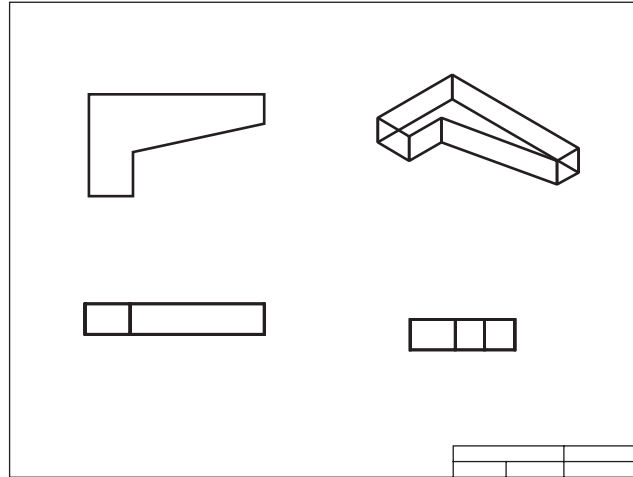

Fig. 26-4
3. Switch to paper space and draw a border and basic title block similar to those in Fig. 26-4.